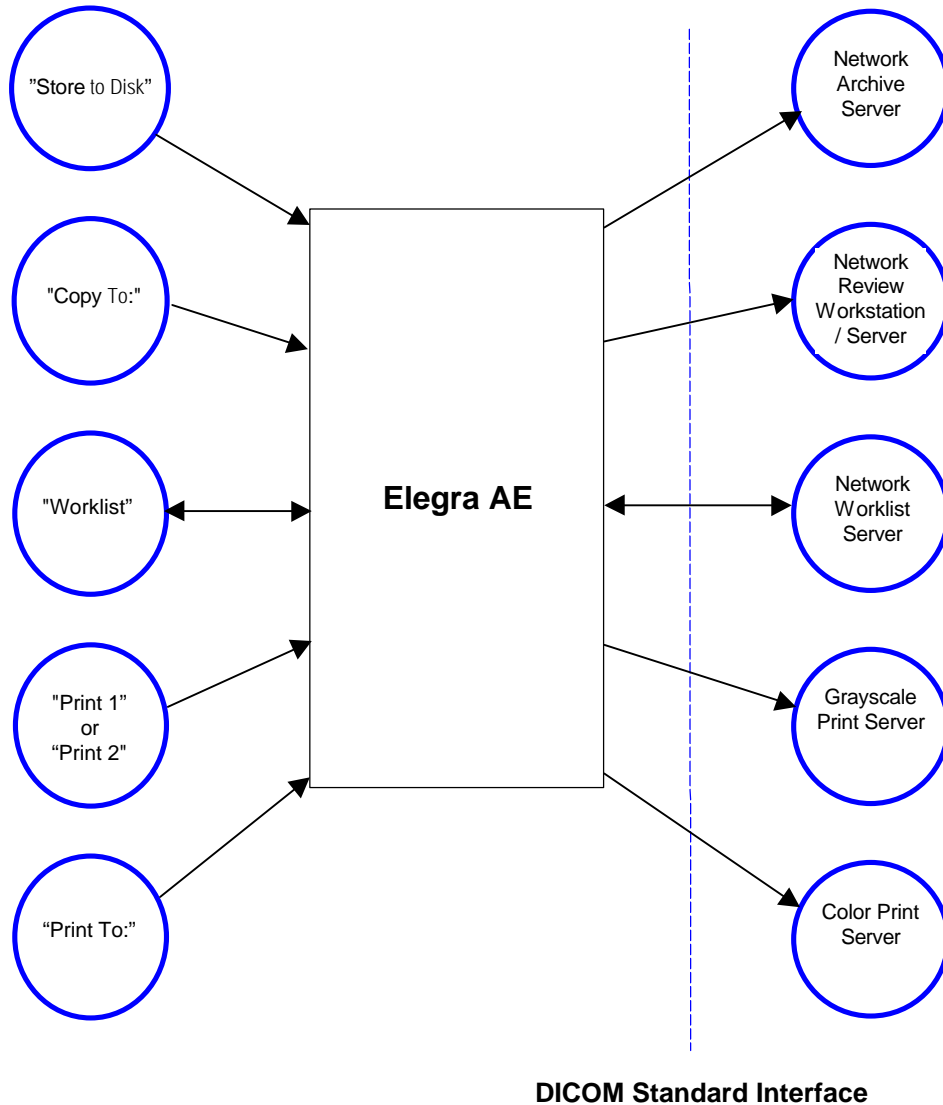

Figure 2.1 - Implementation Model
The diagram shown in Figure 2.1 represents the SONOLINE Elegra system’s Application Entity (AE) which is shown in the box. Relationships between user invoked activities (in the circles at the left of the AE) and the associated real-world activities provided by DICOM service providers (in the circles on the right side of the diagram) are shown.
The following specifications apply to the AE as depicted in Figure 2.1.